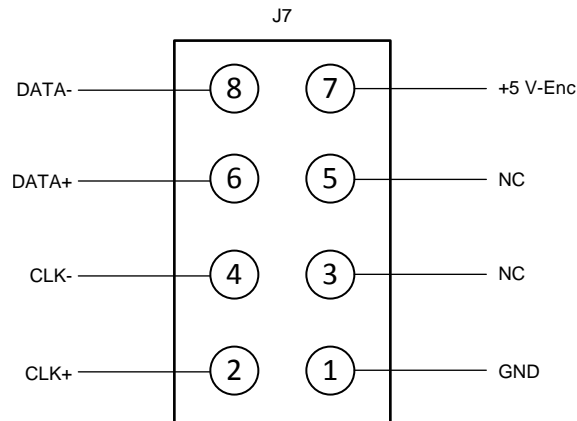

图 11. Abs-Enc-1 (J7) Pinout on TIDM-1008 Board
- b. Insert the header of the adaptor created in the previous step to connect to Abs-Enc-1 (J7). The female end of the Heidenhain cable connect to the encoder. The pinout of J7 is shown 图 11.